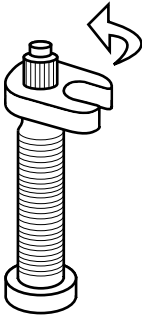

Figure 48. Turn key counter-clockwise to remove core.
1. Place the Bontrager Valve Key over the presta valve core lining up the flats in the key with the flats on the valve core (Figure 48).